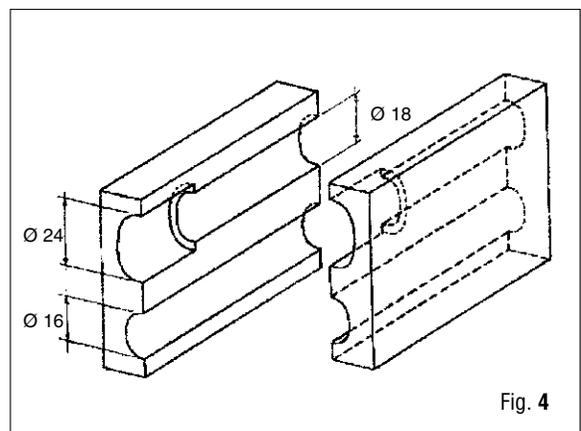
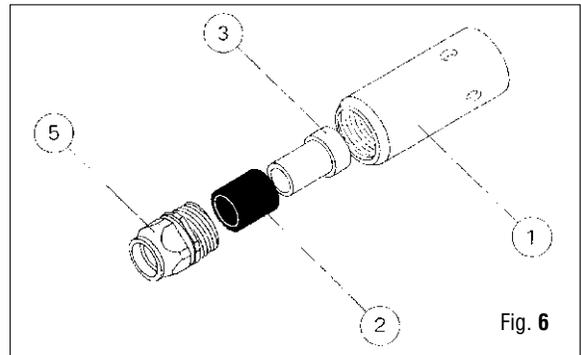
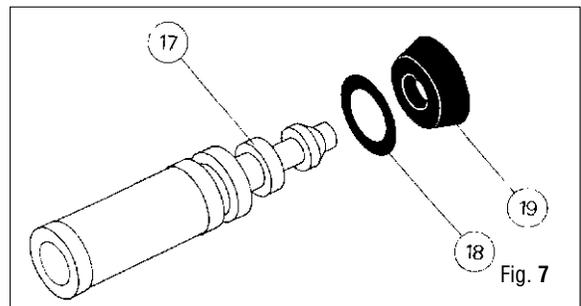
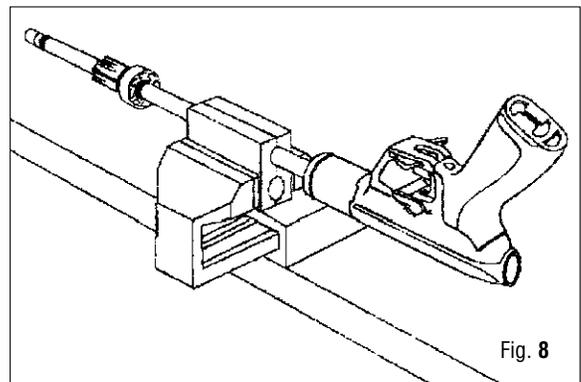

Fig. 4
Fig. 6
Fig. 7
Fig. 8
5. Using a vise, clamp the head (1-2-3-5) in the 24 mm. jaws (A-1) ( Fig. 4). Remove the head by holding the handle and the nose cone and simultaneously turning them counter clockwise using equal effort (Fig. 5).
6. Clamp the head in the 24 mm. jaws (A-1) (Fig. 4) and remove head tip (5) from head body (1) with a 19 mm. wrench (Fig. 6).
7. Remove shock absorber (2) and insert (3) from head body.
8. Remove shock absorber (2) from shock absorber insert (3).
9. Remove piston (19) from the barrel. If necessary a shaft may be used to aid in the removal of the piston (Fig. 7).
10. Remove oil wiper (19) and o-ring (18) from piston.
11. Using a rotating motion, remove the nose cone (4) and o-ring (20).
12. Slide the nose cone reinforcement (23) forward (toward the muzzle) and drain the oil contained in the speargun into a suitable container. Dispose of waste oil properly by taking it to a waste oil recycling facility. (only CYRANO version)
13. Slide the nose cone reinforcement back into its original position, then using a rotating motion remove the tank (25), using clamping jaws (A-3) if needed. (only CYRANO version)
14. Place the barrel in the 16 mm. jaws (A) (Fig. 4) and clamp into vise (Fig. 8).
15. Remove barrel o-ring (22) with tool A-7.
16. Using snap ring pliers remove the barrel bushing (21).
17. Remove the nose cone reinforcement (23) and o-ring (29) from barrel. (only CYRANO version)
18. Remove the remaining barrel o-ring (22) with tool A-7.
19. Using snap ring pliers remove the remaining barrel bushing (21) from barrel. (only CYRANO version)
20. Remove the grip pin (62) using a pin punch, then remove grip (61).
21. Remove trigger pin (3) using a pin punch, then remove trigger (48-52).
22. Remove the trigger adjustment screw (48) from trigger body (52) with a 6 mm. wrench.